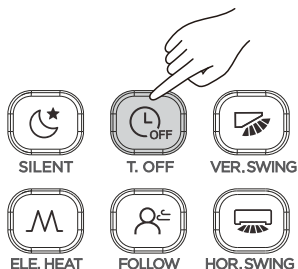

Figure 3.18
- ② Press  or ▲, ▼ to adjust the timer settings;
- ③ Once the adjustment is done, the timer information is sent to the indoor unit.
- ① Press  (see Figure 3.18), and the remote controller will display "Timer Off", and "0.0h Later Off" will appear in timer area. Adjust the Timer Off settings now;